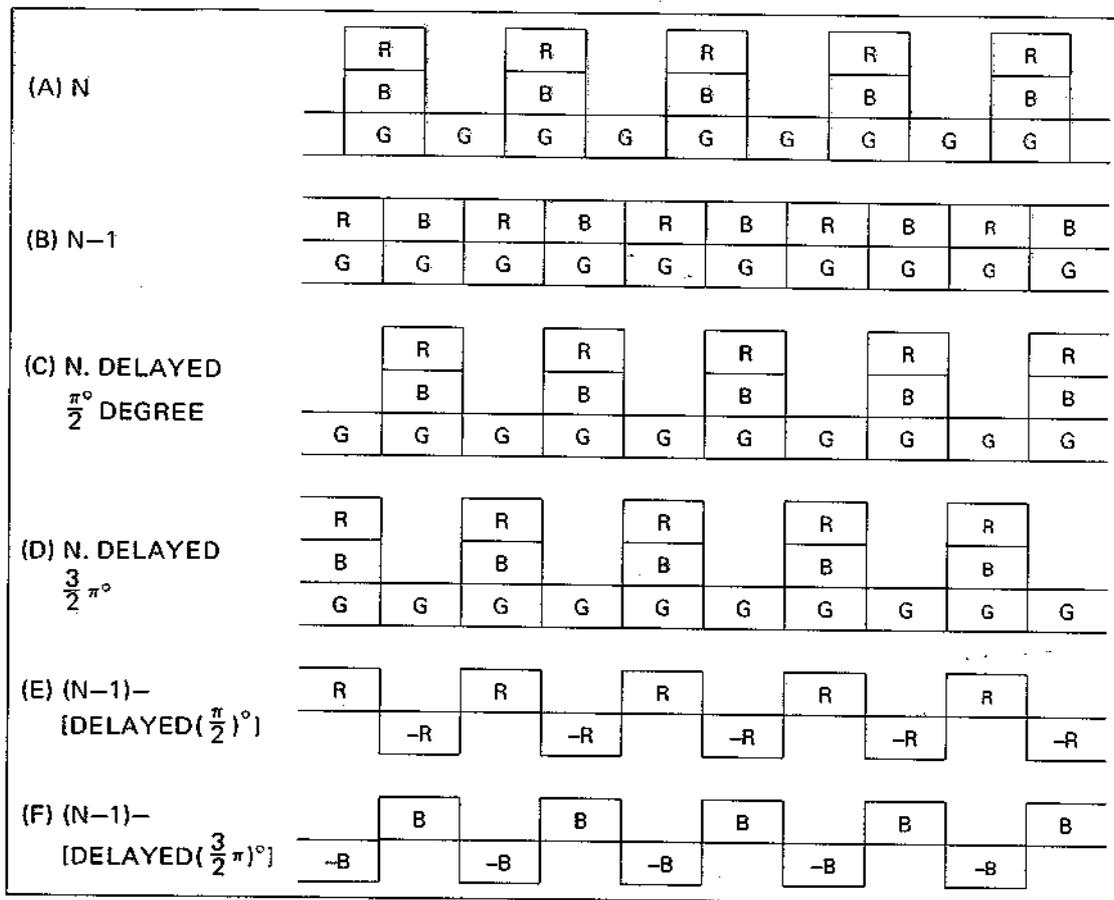
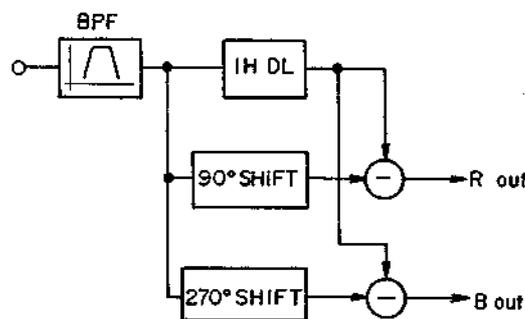

Fig. 5-15 Output Waveforms
Fig. 5-16 Color Separation Circuit
Suppose that a white subject is being shot. Various voltage waveforms resulting from photoelectric conversion through the stripe filter in the Saticon are shown in Figure 5-15.
The waveform in Figure 5-15, (A) is produced when the repeated white/green portion on the stripe filter is scanned along a straight line.
Then, as the next scanning line passes over the repeated cyan/yellow portion, the waveform shown in Figure 5-15, (B) is generated.
The basic circuit used for the purpose is shown in Figure 5-16. With VC-X2, a signal which has its phase shifted 270° is produced in IC9 AN6031. If waveform (A) in Figure 5-15 is supplied to this color separation circuit, it will be shifted 90° by TR5, resulting in the waveform shown in Figure 5-15 (C) being produced. In addition,
after being inverted and shifted 270° within IC9 AN6031, the waveform should appear as shown in Figure 5-15 ⑥. When the waveform ⑥, obtained by delaying waveform ① by 1H, is electrically subtracted from the waveforms ③ and ④, the R-signal and B-signal are separated.
To detect the dark current, a black mask is mounted on part of the image pick-up tube as illustrated in Figure 5-14. The purpose of the black mask is to prevent the incident light from entering the tube for part of the horizontal scanning time. A black current is the current that flows at the time the masked portion is scanned by the beam. The output waveform is shown in Figure 5-15. During the time when the dark current only is flowing, the black level of the video signal is maintained at a given level for a period of time during which the clamp pulse is supplied to the base of TR1, which forms part of a clamp circuit consisting of C1, C2, TR1, R1 and R2. (See Figure 5-16.)